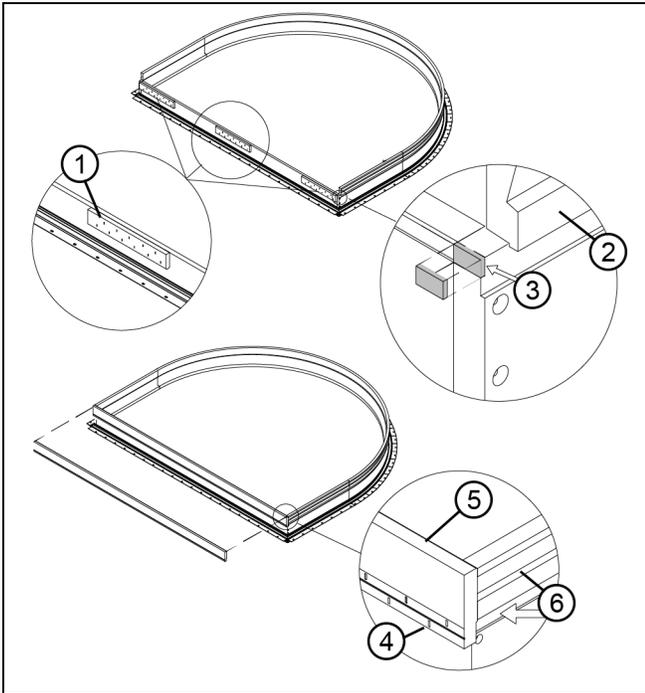

Figure 38
2. For mulling ELALDGRT units to inswing door units with 6 9/16" jambs W8430 jamb extension is supplied. Remove shipping blocks and trim jamb as shown in Figure 38. Cut horizontal mull filler to length and apply with 3/16" staples as shown in Figure 38.